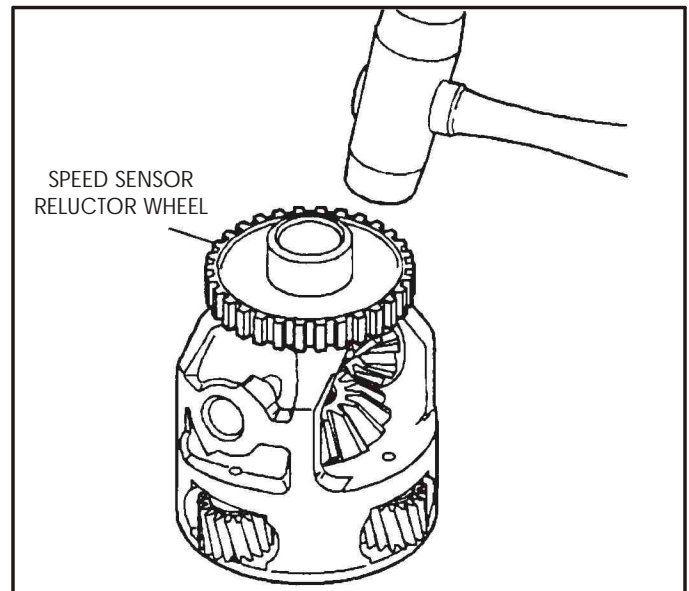

Figure 91
26. Use a plastic mallet to install the speed sensor rotor onto the differential carrier housing, as shown in Figure 91. Tap evenly around the speed sensor rotor with the mallet.